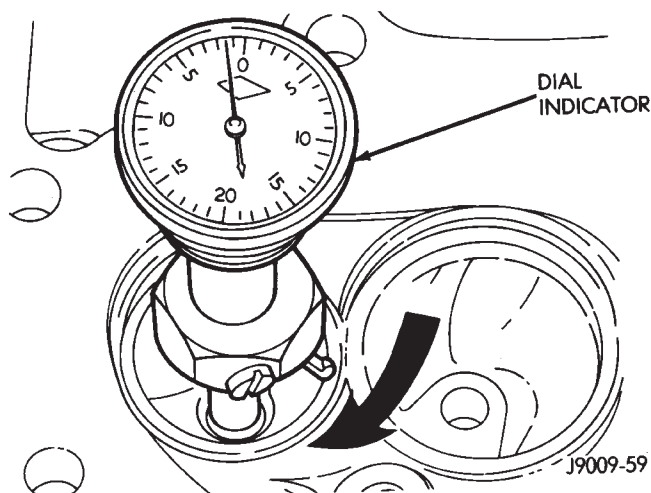

Fig. 20 Measurement of Valve Seat Runout
(3) Control valve seat runout to a maximum of 0.0635 mm (0.0025 in.)—(Fig. 20).